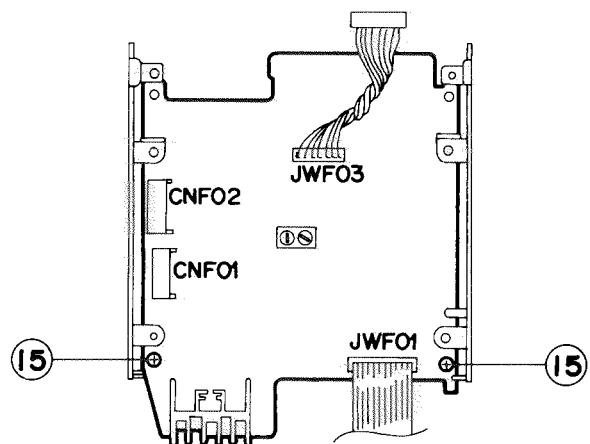

Fig. 7 – 17
■ CD Amplifier P.C. board(Fig. 7 – 19, 20)
1. Remove the three screws (46) retaining the CD amplifier P.C. board from the CD player ass'y.
4. Remove the one screw (46) retaining both the wire and the shield plate to the CD mechanism holder.